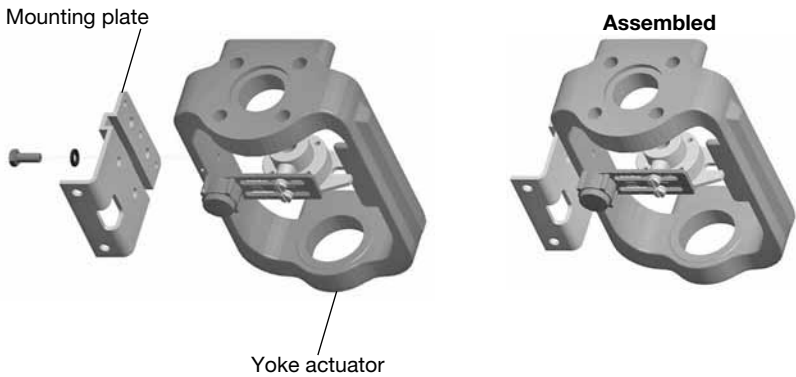

**Fig. 8**
**5.2.3** If you're not using a Spirax Sarco actuator, slide the bracket till the distance 'A' between the center of the magnet and the inner side of the mounting plate is 25 mm (Figure 8).